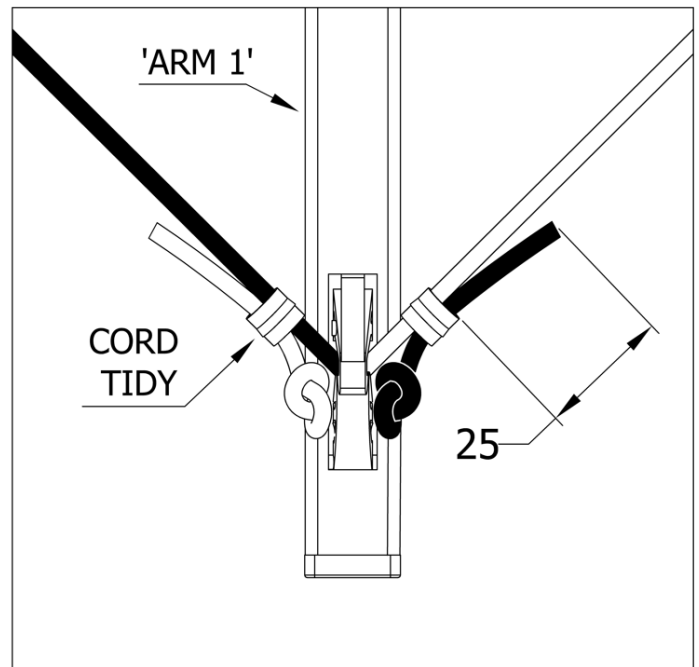

Fig 6. Feed tails through cord tidies and trim.
10. Feed both tails through the cord tidies and then trim to approx. 25mm. (Fig. 6)